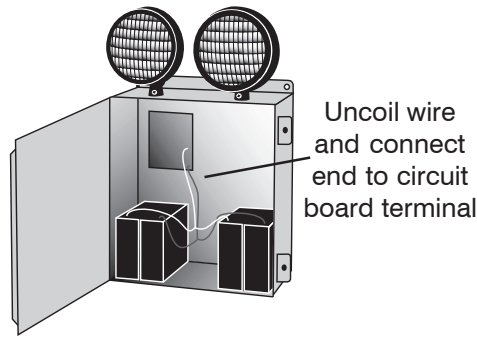
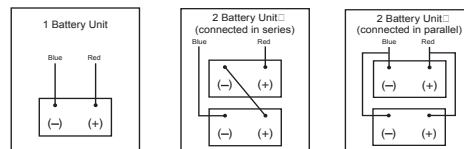

Figure 4
Figure 5
7. Connect the wire lead(s) from the Positive battery terminal (+) to the positive terminal connector on the circuit board (Figure 4). For large units the batteries may be shipped separate from the cabinet. Install the batteries into the cabinet and make the appropriate inter-battery connections (Figure 5).